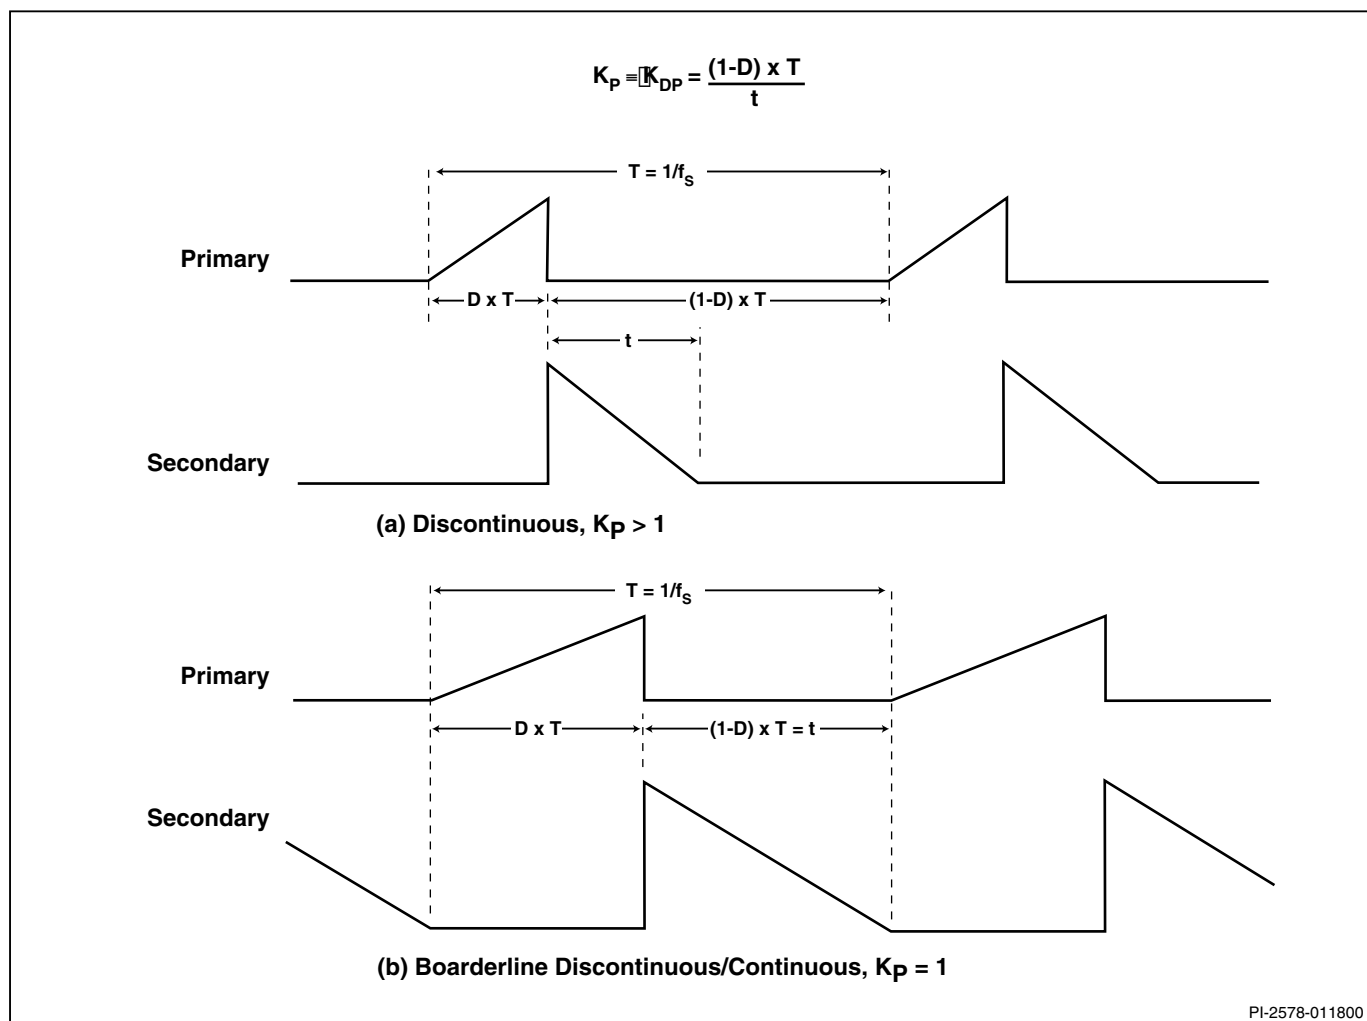

Figure 10. Discontinuous Mode Current Waveform, $K_p \geq 1$.
- For $K_p \geq 1.0$, $K_p = K_{DP}$, discontinuous mode (see Figure 10)